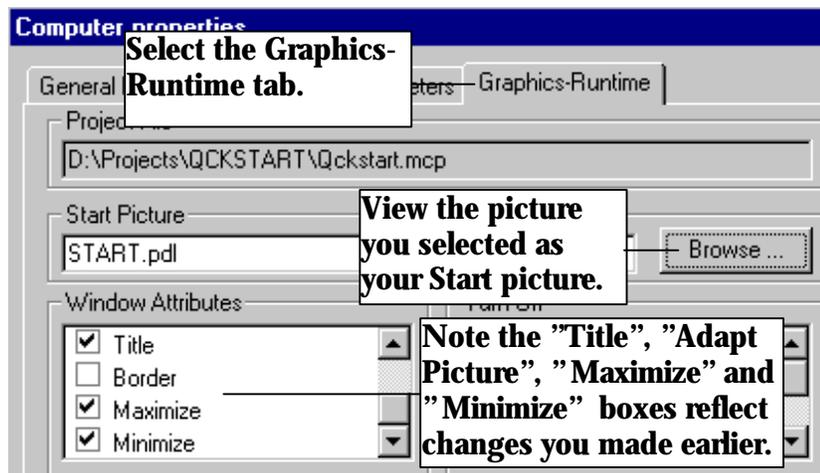

Figure 7.11 WinCC Project "QckStart"; Viewing Client Changes
6. Next set the "Title", "Maximize", "Minimize" and "Adapt Picture" flags under Windows Attributes. See Figure 7.11.